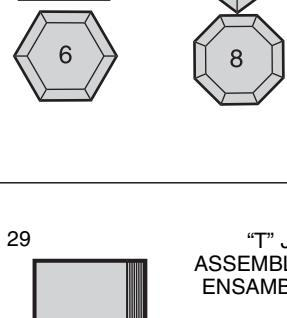

FIG 28
D. Clamp the workpiece and align the tool as shown in Figure 28.